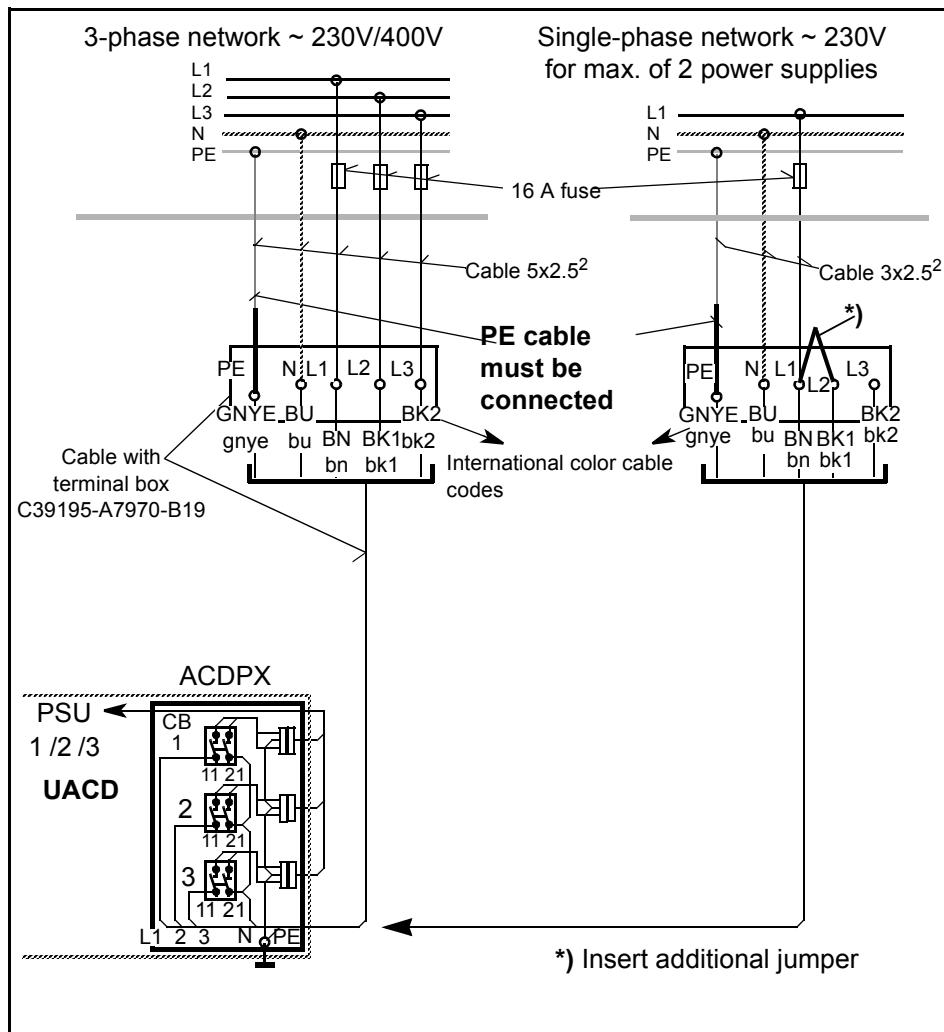

Figure 7 Three-phase/single-phase connection for two power supply units
- b) Connect the power switches 1, 2 and 3 to the ACDPX in the power supply frame of the UACD, as shown in the Figure 7.